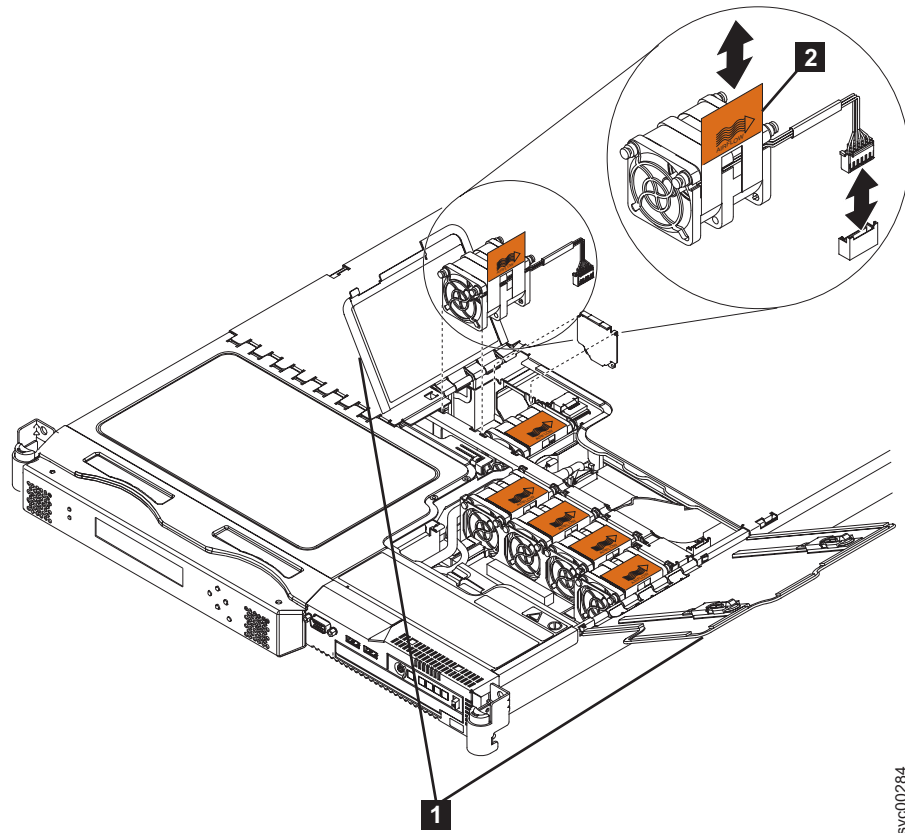

Figure 171. SAN Volume Controller 2145-8G4 fan doors, locations, and connectors
2. Slide the node forward to gain access to the fan doors (1 in Figure 171).
5. Pull up on the orange tab (2 in Figure 171) of the failing fan to lift the fan out of the node.